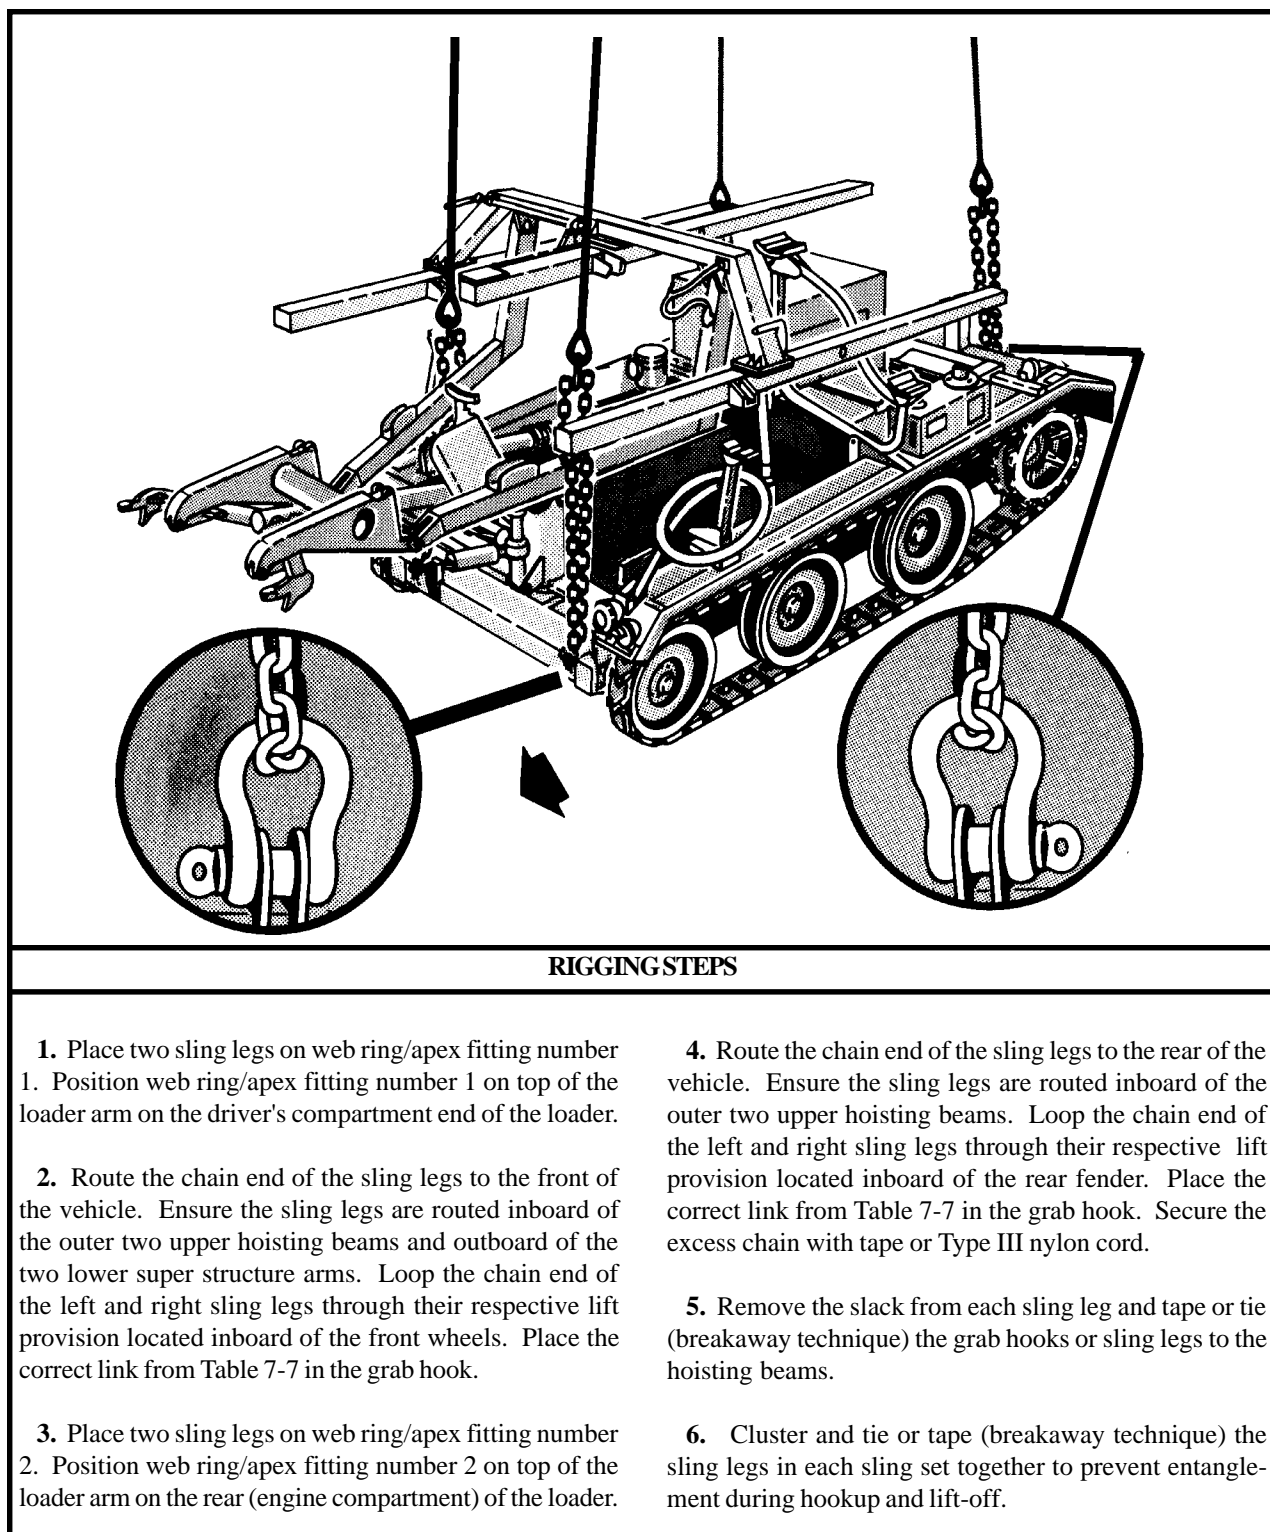

Figure 7-7. M501E3 Guided Missile Loader-Transporter
(2) **Rigging.** Rig the load according to the steps in Figure 7-7.
(4) **Derigging.** Derigging is the reverse of the preparation and rigging procedures in steps d (1) and d (2).